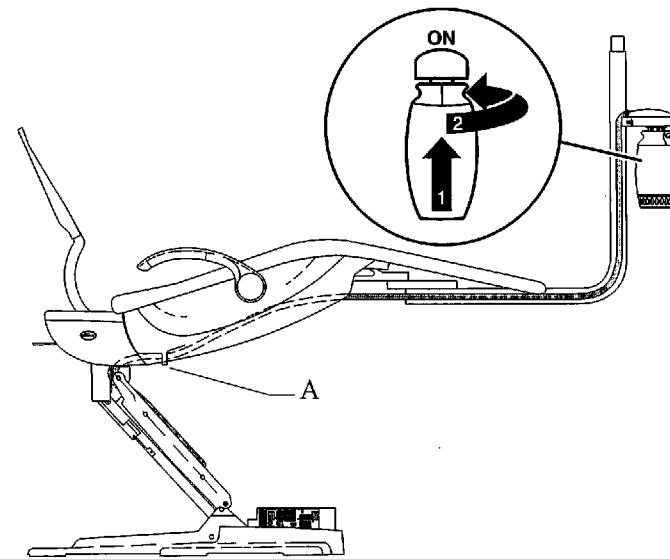

Figure 16. Routing of tubing and attaching the water bottle. (A) tubing guide
6. Lube the O-ring on the receptacle and attach the water bottle (see Figure 16).